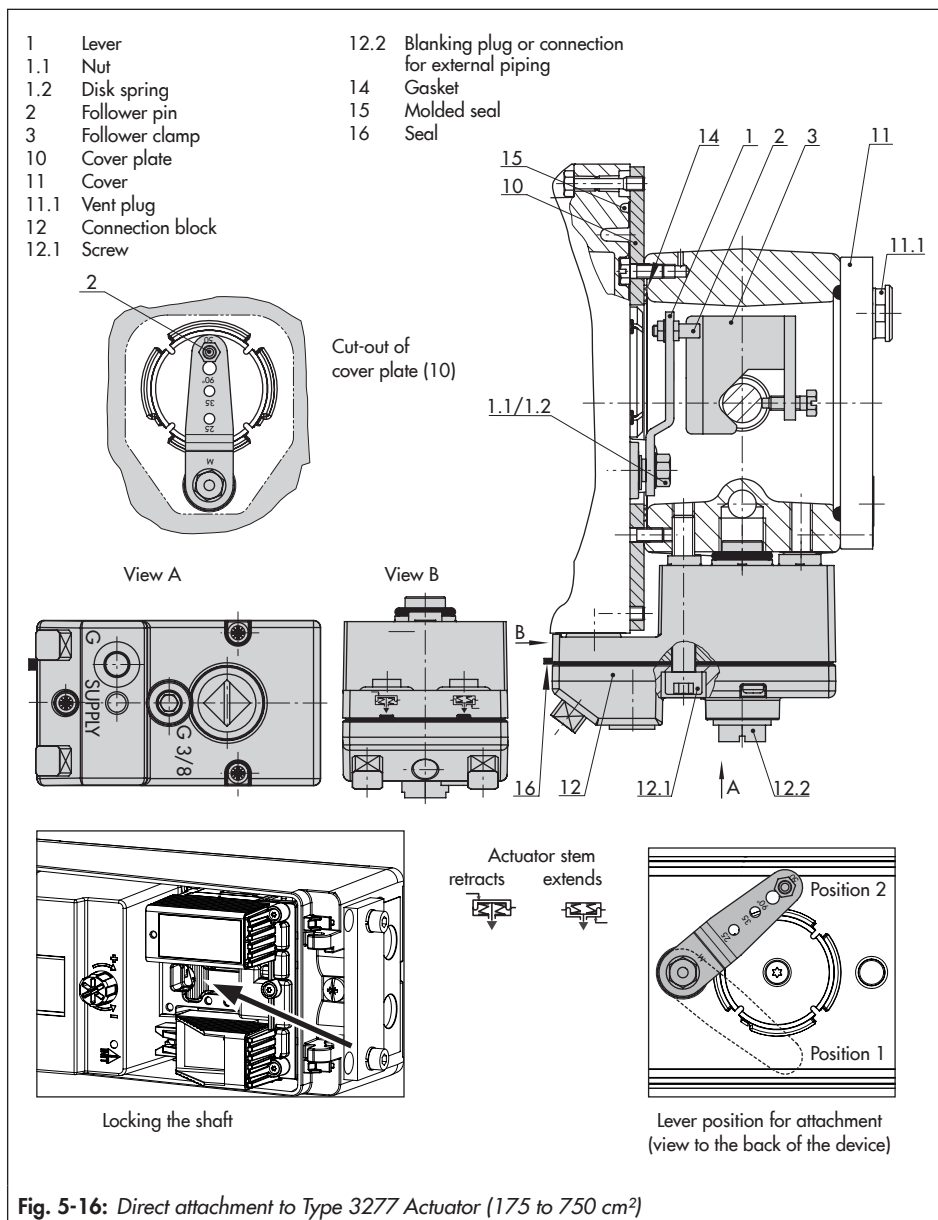

Fig. 5-16: Direct attachment to Type 3277 Actuator (175 to 750 cm²)
To lock the positioner shaft on mounting the positioner on the valve, insert a flat-blade screwdriver into the groove of the limit switch assembly and hold the shaft in position 2 (see Fig. 5-16).
- See Fig. 5-16
1. Place follower clamp (3) on the actuator stem, align it and screw tight so that the mounting screw is located in the groove of the actuator stem.
2. Mount cover plate (10) with narrow side of the cut-out pointing towards the signal pressure connection. Make sure that the glued-on flat gasket (14) points towards the actuator yoke.
3. Check the pin position of the follower pin (2) on M lever (1). Refer to travel tables for type of attachment. If necessary, change the pin position (see Chapter 5.2.1).
4. Insert molded seal (15) into the groove of the positioner housing.
5. Turn the lever counterclockwise until the spring force can be felt (position 1). Continue to turn the lever further to position 2 (see Fig. 5-16, bottom right).
6. Press the shaft lock (see Fig. 5-16, bottom left) to hold the lever in position 2.
7. Place positioner on the cover plate in such a manner that the follower pin (2) rests on the top of the follower clamp (3). The lever (1) must rest on the follower clamp with spring force.
9. Press the shaft lock of the prepared positioner (see Fig. 5-16, bottom left) and hold the lever in position 2.
10. Place positioner in such a manner that the follower pin (2) rests on the top of the